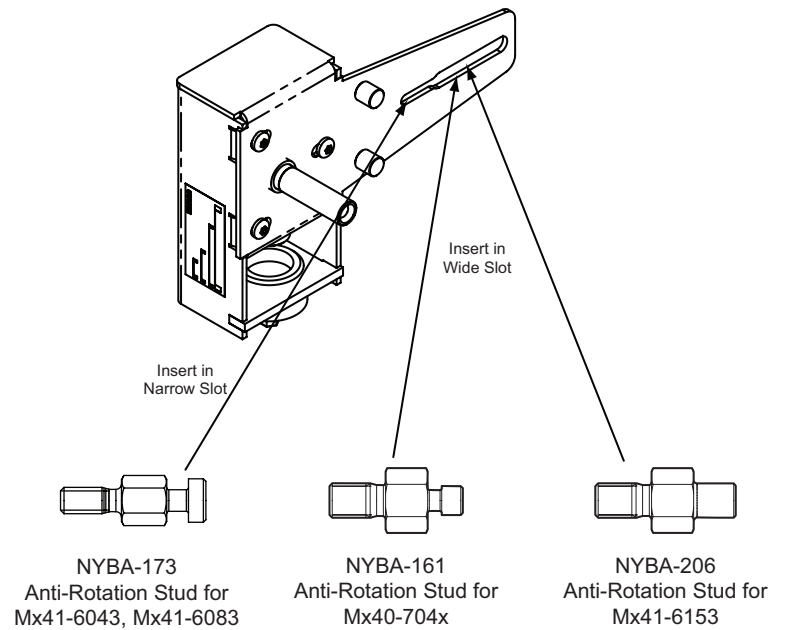

Figure-1 Anti-Rotation Studs.
1. If necessary, remove unused anti-rotation studs from linkage (see Figure-1 on page 3)